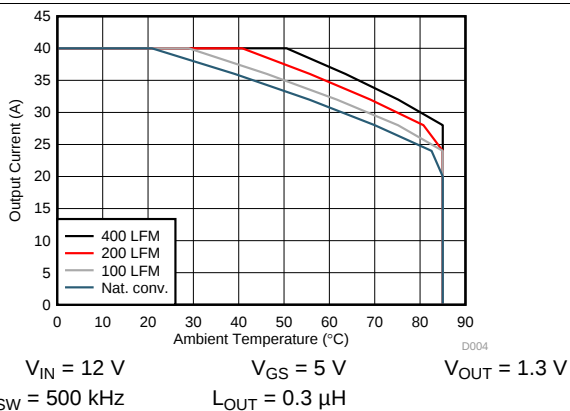
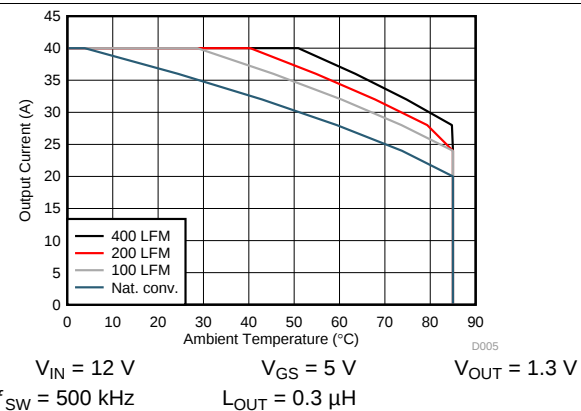
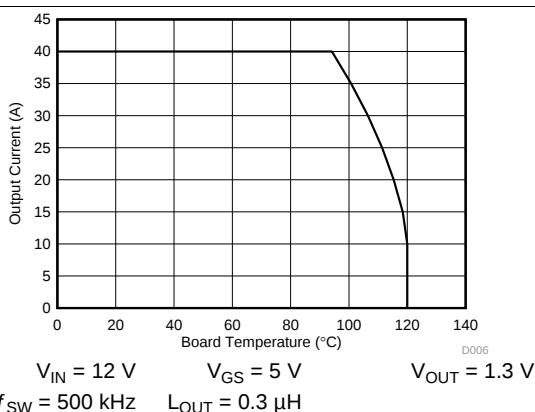

Figure 3. Safe Operating Area (SOA) – PCB Vertical Mount
Figure 4. Safe Operating Area (SOA) – PCB Horizontal Mount
Figure 5. Typical Safe Operating Area (SOA)
$T_J = 125^\circ\text{C}$, unless stated otherwise. The typical power block system characteristic curves Figure 3, Figure 4, and Figure 5 are based on measurements made on a PCB design with dimensions of 4 in (W) $\times$ 3.5 in (L) $\times$ 0.062 in (H) and 6 copper layers of 1-oz copper thickness. See Application and Implementation for detailed explanation.
The SOA curves in the CSD87350Q5D data sheet provides guidance on the temperature boundaries within an operating system by incorporating the thermal resistance and system power loss. **Figure 3** to **Figure 5** outline the temperature and airflow conditions required for a given load current. The area under the curve dictates the safe operating area. All the curves are based on measurements made on a PCB design with dimensions of 4 in (W) × 3.5 in (L) × 0.062 in (T) and 6 copper layers of 1-oz copper thickness.